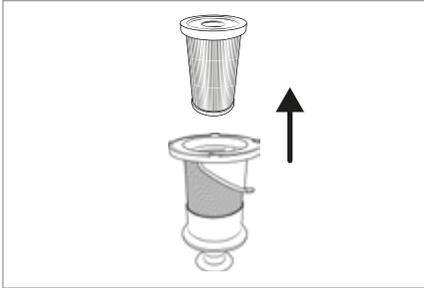

Fig. 21
- 4) Remove the EPA filter **5** from the stainless steel filter **6** by reaching into the opening of the EPA filter **5** and pulling it out of the stainless steel filter **6** (see Fig. 21).